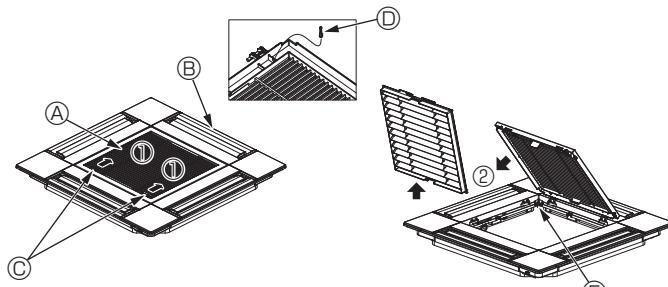

Fig. 5-3
5.2.1. Removing the intake grille (Fig. 5-3)
- Slide the levers in the direction indicated by the arrow ① to open the intake grille.
- With the intake grille in the "open" position, remove the hinge of the intake grille from the grille as indicated by the arrow ②.